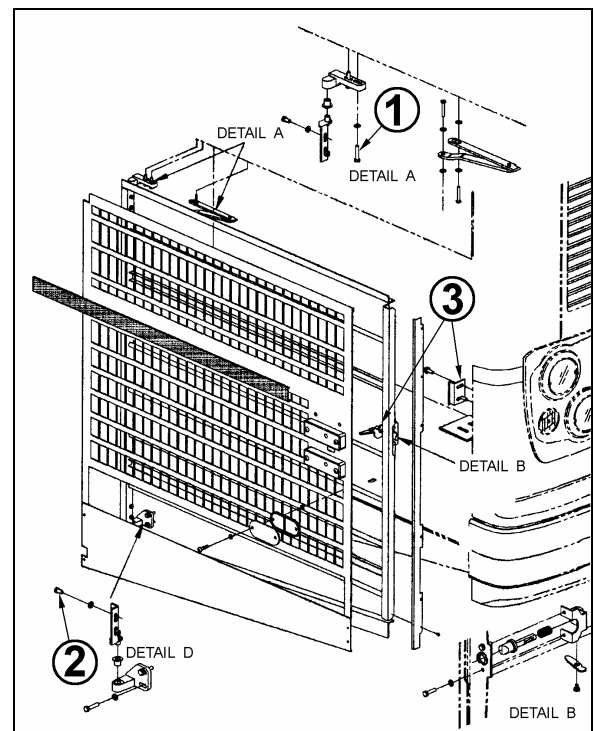

FIGURE 34: RADIATOR DOOR
1. Loosen the bolts, (1, Fig. 34) holding the hinge to the vehicle structure to shift the door "IN or OUT" and "UP or DOWN".
2. Loosening the bolts (2, Fig. 34) allows the door to be shifted "LEFT or RIGHT" and "UP or DOWN".
To adjust the latch mechanism (3, Fig. 34) and the striker pin: